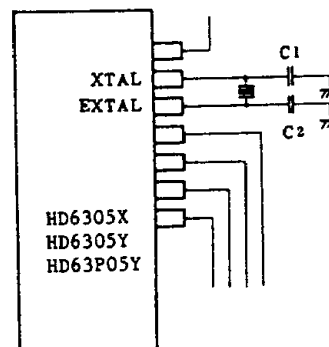

Figure 34 Design of Oscillation Circuit Board
- Board design of situating signal lines or power supply lines near the oscillator circuit as shown in Fig. 35, should not be used because of trouble in oscillation by induction. The resistor between the XTAL and EXTAL, and pins close to them should be 10M  $\Omega$  or more. The circuit in Fig. 34 is an example of good board design.